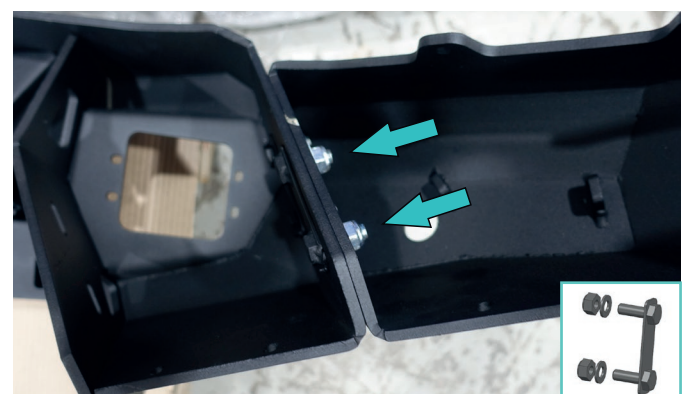

Fig.43
41. Fix the end caps (item 4, 5) to the bumper body (item 3) using insert nuts (item 8), penny washers 10 and nuts M10 (item O, H) (fig.43).